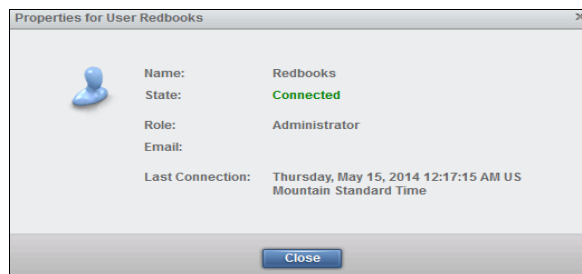

Figure 4-66 User properties
- ▶ **Properties:** This option displays the properties of the user, the state of the user, and the user's last connection, as shown in Figure 4-66.